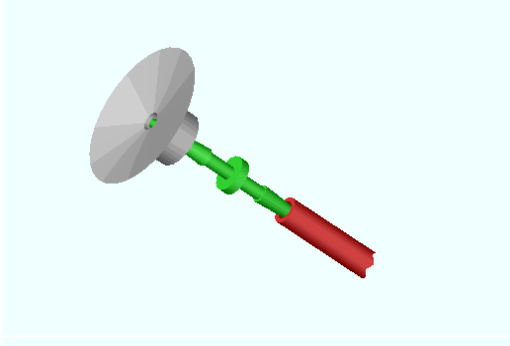
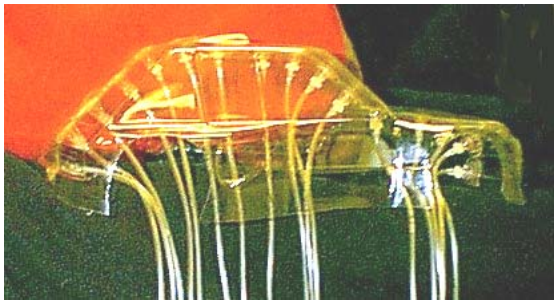

Fig 3. Schematic of Pressure Tap system.
Fig 4. Picture of instrumented car.
The first lab exercise is to measure the surface pressure distribution around the vehicle using the pressure-tapped models. Each model has 13-14 pressure taps. The pressure taps were made by drilling small holes in the surface of each car and connecting tygon tubing to the underside of each hole. Figure 3 is a schematic of the pressure tap and Figure 4 shows a pressure tapped model. More information on each model car can be found at the end of this package.
- Convert all transducer output voltages to pressures using the information in Figure 4. (Note this is a calibration curve for the wind tunnel pressure transducer that I recently calibrated).
- Calculate C_p at each pressure port location for both speeds. Make a plot of ΔP versus x location and one of C_p versus x location for both velocities tested (see attached information for x location information). **Your plots MUST have error bars on the data points!** The uncertainty in ΔP due to the calibration is given in Figure 4 below. When you estimate your uncertainty in ΔP you need to account for the variation in the measurements plus the calibration uncertainty.
Figure 4. Wind tunnel pressure transducer calibration results. The uncertainty in the pressure measurement is 0.02" water and accounts for the micro-manometer accuracy and calibration fit.